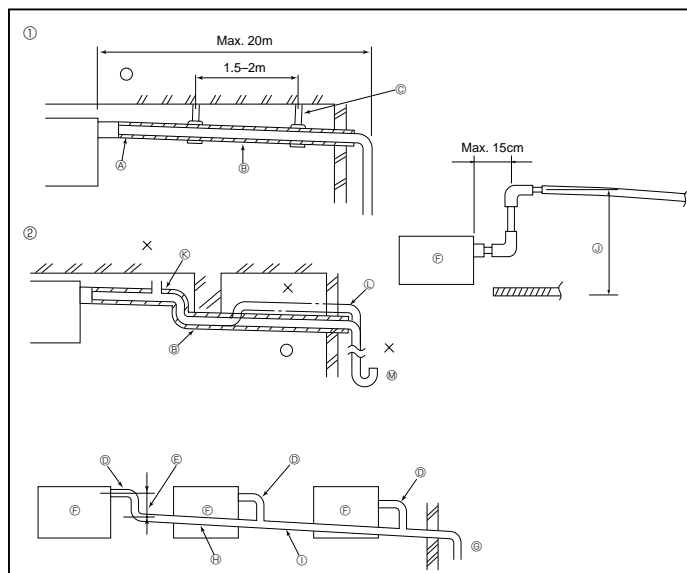

Fig. 3-4
3.4. Drainage piping work (Fig. 3-4)
- ① Correct piping
- ② Wrong piping